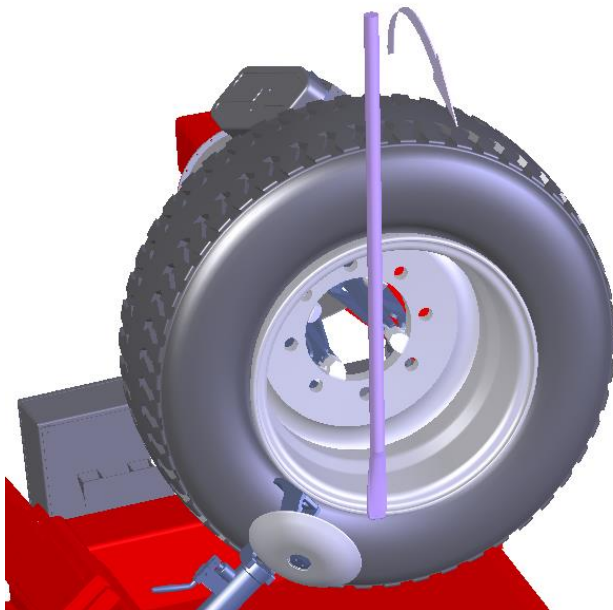

Fig. 18
- Tilt the tool arm and move it back of the tyre pressing the pedal. Using the lever swing the tool into position 2 then re-attach the tool arm to the trolley. Use the control to move the tool against the tyre with the control until the bead is hooked on Fig. 18, put the tyre into tension moving the rim away from the tool so that the bead enters the channel.
- Insert the special lever ( Fig. 18/ Fig. 6 ) between the rim and bead to the right of the tool to ensure that the bead remains on the tool. Move the rim towards the tool again ( Fig. 18 ) until the front bead has completely come out. Rest the wheel on the trolley platform to obtain working space for the easy removal of the inner tube.